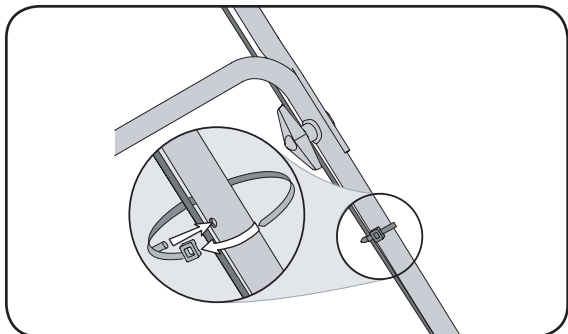

Figure 5
5. Insert post on cable tie into hole provided on the lower handle. Pull cable tie tight and trim excess. See Figure 5.